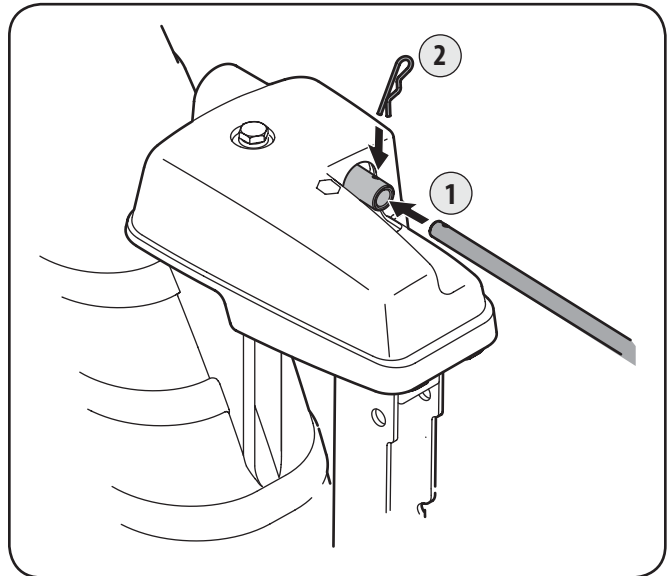

Figure 3-16
6. Insert chute directional control rod into rear of the chute control assembly. Secure the chute directional control rod to the chute control assembly with the hairpin clip removed earlier. See Fig 3-16.